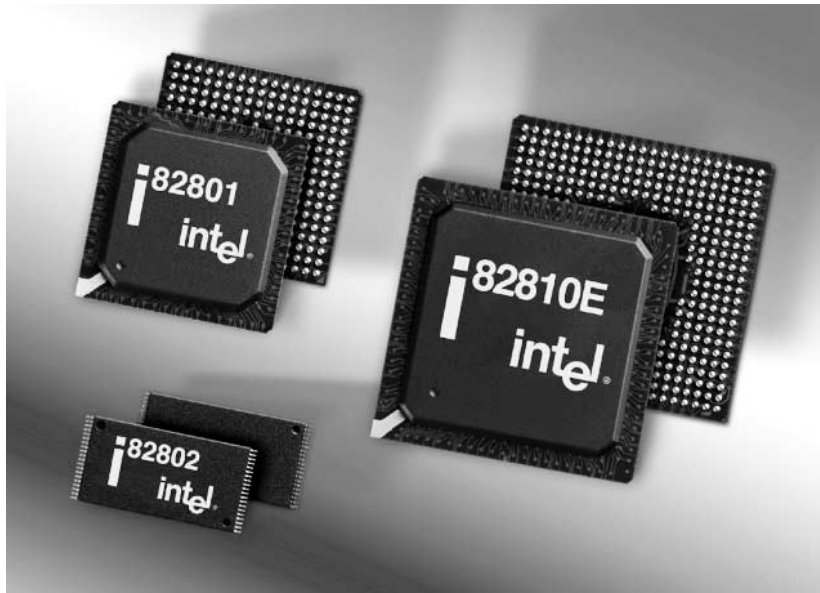

Figure 5-8. The Intel 810e chipset. Photo courtesy of Intel Corporation
- **810e** This chipset, shown in Figure 5-8, is an extended version of the 810 chipset based on the 440BX chipset and intended for home market and office PCs. Its features are the same as the 810 chipset, with added support for 133MHz system bus and the ATA-66 interface.